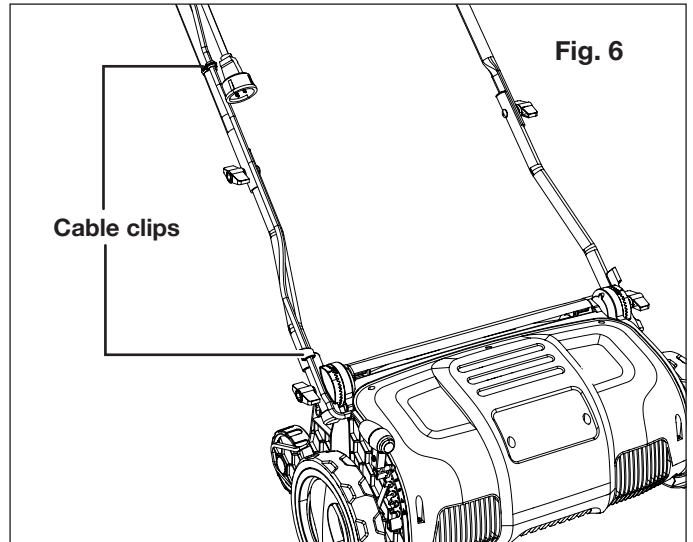

Fig. 6
5. Fix the cord with the spare cord clip and the clip on the adjusting gear wheel (Fig. 6).